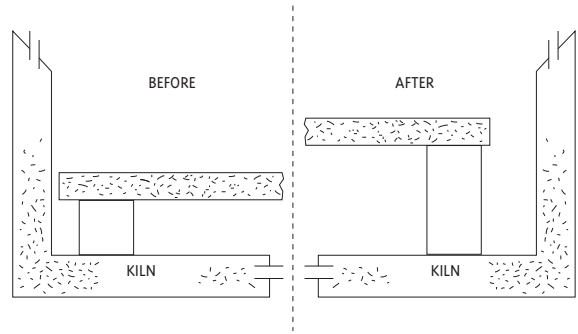

FIGURE 4
3. Reduce the size of the kiln shelf and raise it further off the kiln floor to allow greater heat circulation around the shelf and the piece. (Figure 4)